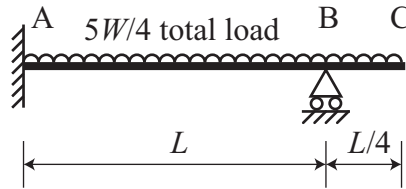

Figure 8
- * 8. Figure 8 shows a uniform beam, ABC , of fully plastic moment, M_p , which is built in at A and simply supported at B . The beam carries a total load of magnitude, $5W/4$, uniformly distributed over the length, AC .